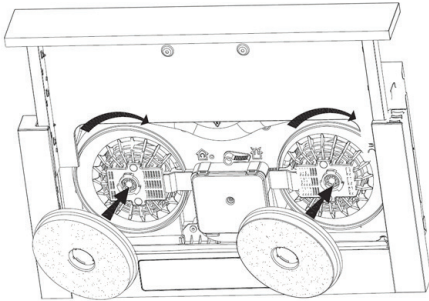

Fig. 2
2. The carbon filters are situated on both motors. Turn the filters, until they are secured (see Fig. 2).